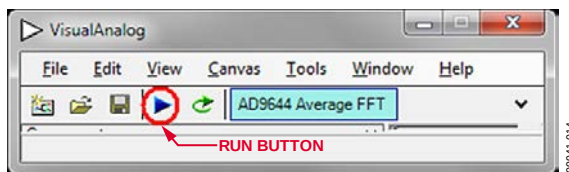

Figure 14. Run Button in VisualAnalog Toolbar, Collapsed Display
- Click the **Run** button in the **VisualAnalog** toolbar (see Figure 14).